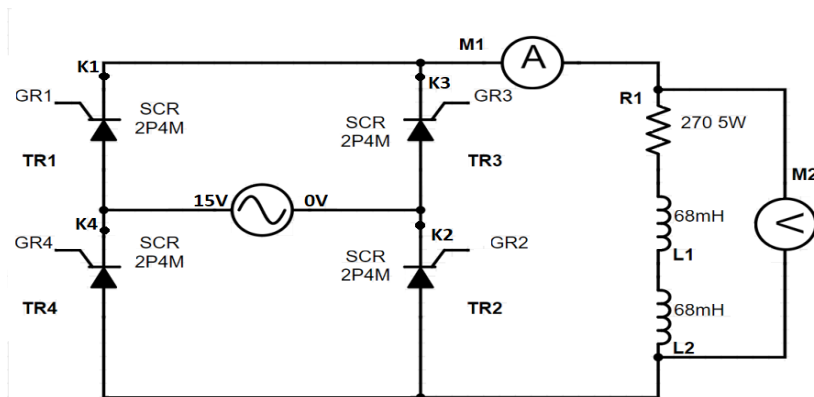

Figure 30
1. Connect the circuit as shown in Figure 30.
6. Connect circuit, as shown in Figure 30, using patch cords.
9. Connect the ammeter between SCR and Load, as shown in Figure 30.